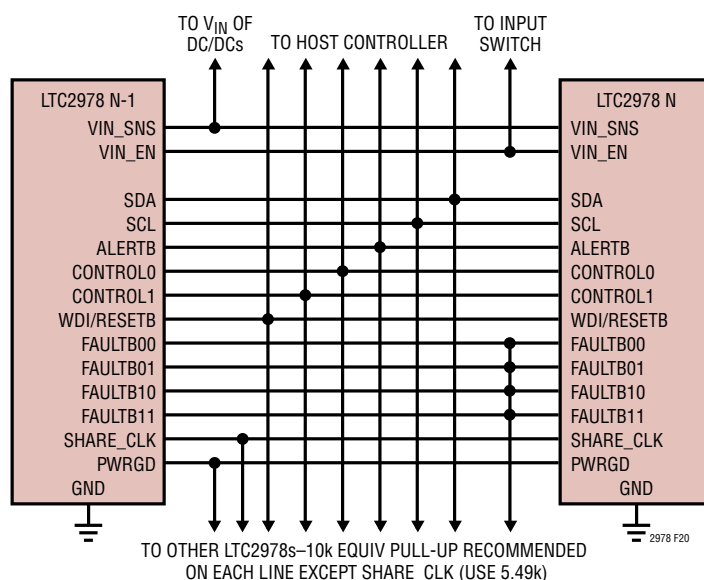
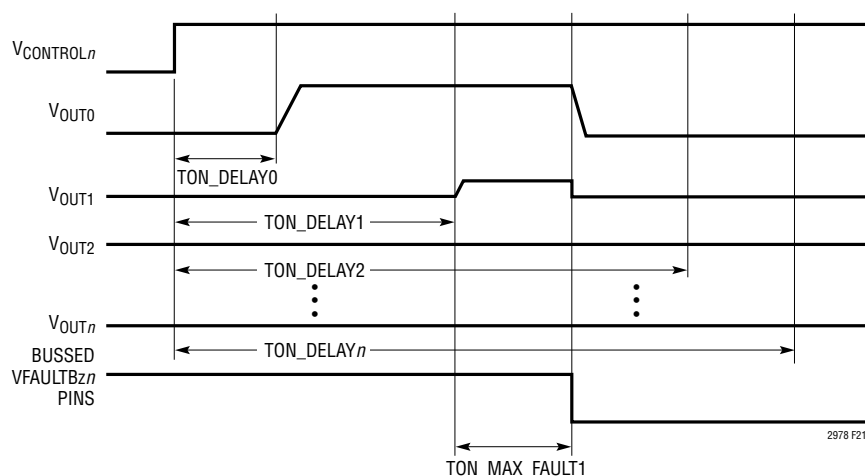

Figure 20. Typical Connections Between Multiple LTC2978s
Figure 21. Aborted On Sequence Due to Channel 1 Short
Figure 20 shows how to interconnect the pins in a typical multi-LTC2978 array.
- The FAULTBzn lines can be connected together to create fault dependencies. Figure 20 shows a configuration where a fault on any FAULTBzn will pull all others low. This is useful for arrays where it is desired to abort a start-up sequence in the event any channel does not come up (see Figure 21).
- PWRGD reflects the status of the outputs that are mapped to it by the MFR_PWRGD_EN command. Figure 20 shows all the PWRGD pins connected together, but any combination may be used. Note that the latency of the PWRGD pin response may be in the range of 30ms to 185ms depending on ADC MUX settings. See Electrical Characteristics Table Note 6.